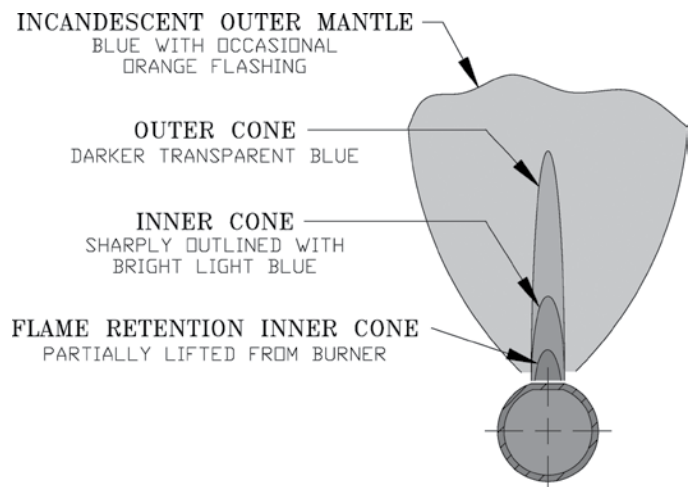

Figure 52: Main Burner Flame
3. Check main burner flames. See Figure 52. Flame should have clearly defined inner cones with no yellow tipping. Orange-yellow streaks caused by dust should not be confused with true yellow tipping.